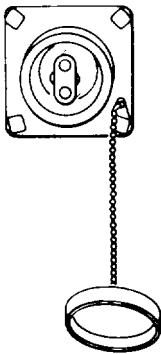

Figure 2-24. 110 volt external receptacle
a. Connecting 110 Volt AC External Power Source (figure 2-24).
- (1) Unscrew dust cover from 110 volt AC external receptacle.
- (2) Connect external 110 volt power supply to receptacle.